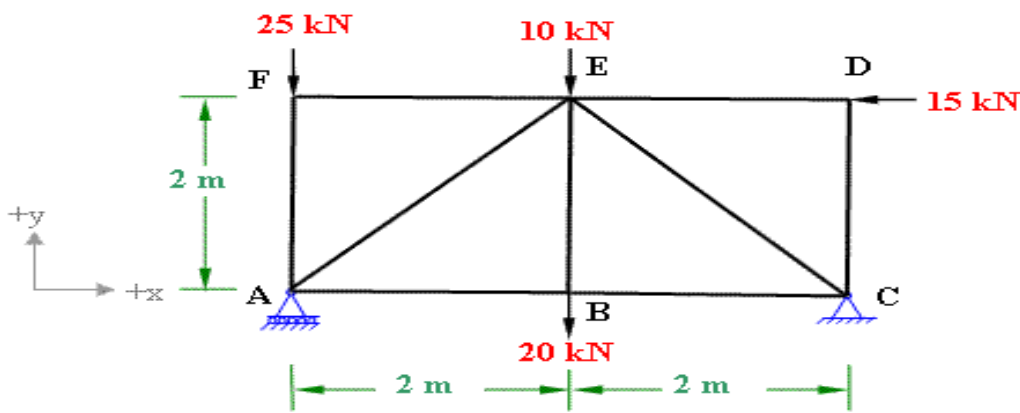

Figure -1
- 1 Using method of joints determine the forces in all the members of pin jointed plane truss as shown in figure-1 14M CO1 L3